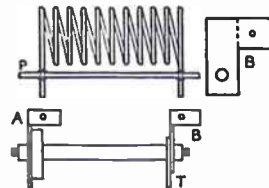

Fig. 3—The coil fitting
In the writer's case, a soldering strip projected from the rotor section, and this was bent round as in (A) Fig. 3. For the stator section, a piece of aluminium sheet was cut out as in (B) (enlarged) and bent to shape. This, with a soldering tag (T) was fixed to the condenser by the nut provided on the condenser. Small holes to provide sockets for the coil will be seen in both (A) and (B).
If plug-in coils are used, then these should be mounted on polystyrene or Paxolin strips to keep them rigid and prevent damage. The ends of the coil should project about ¼in. A blob of solder should first be put on the ends, then the strip (already bored) put in position, and another touch of solder used to secure the two ends. See (P) in Fig. 3.